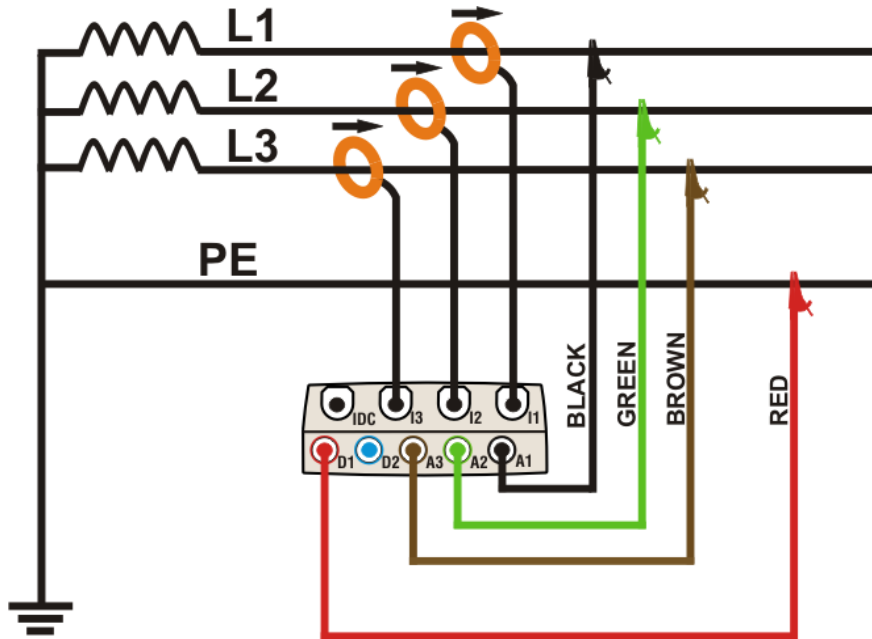

Fig. 168: Meter connection in a three phase 3-wire ARON system
2. Connect voltage test leads on Phases L1, L2, L3, and Ground cables considering the colours as shown in Fig. 168. **Verify the result "123" at display relative to a correct phase sequence indication** (see § 5.2.4.1) and perform the corrections if necessary.
3. Connect the transducer current clamps on Phase L1, L2, L3 cables as shown in Fig. 168 respecting the clamp's arrow direction indicating the current standard sequence from generator to load. **On Real Time Values' section screens (selecting a 3 wire system preliminarily) always verify the positive value of Active Power and the power factor relative to load which should be normally inductive** before starting a recording. Reverse the clamp by 180 degrees on cables in case of negative readings.